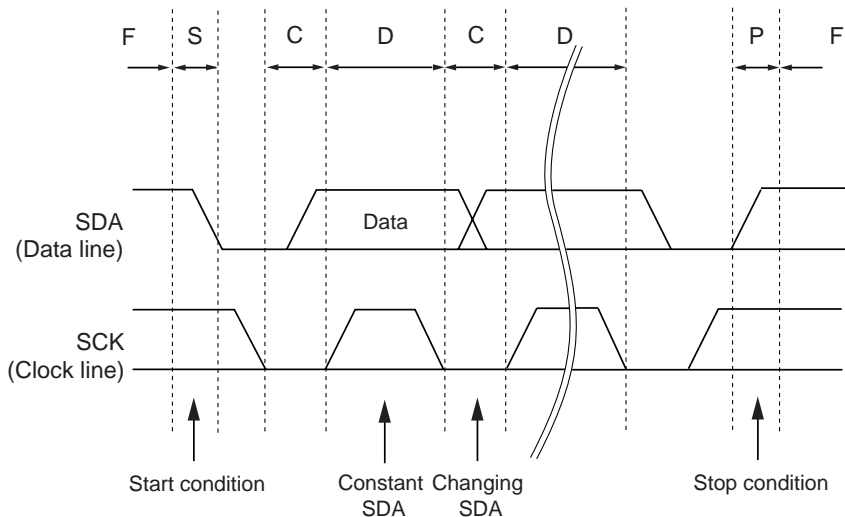

Figure 6-3-1-5 Bit Transfer Procedure on the I2C Serial Bus
Figure 6-3-1-6 shows three data formats that have been prepared for use with the I2C Serial Interface. The first byte (SLA and R/W) that follows start signal (S) normally consists of 8 bits.